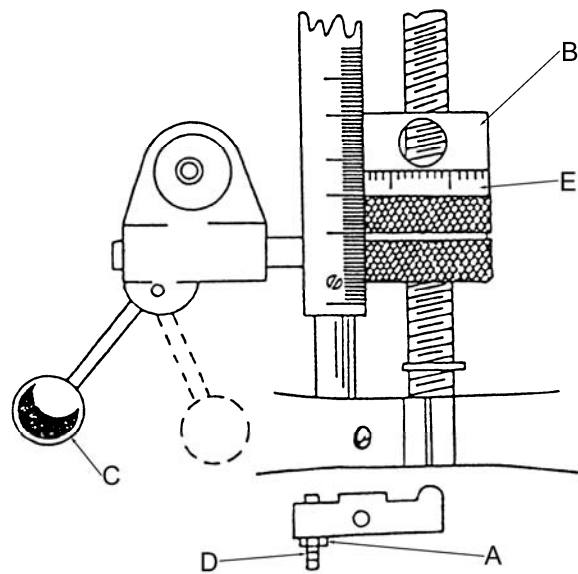

Figure 14
1. Loosen lock nut (A, Fig. 14).
2. Engage trip handle (C, Fig. 14) by pulling away from head assembly.
3. Adjust micro nuts (E, Fig. 14) against quill stop (B, Fig. 14).
4. Slowly turn adjusting screw (D, Fig. 14) until lever (C, Fig. 14) trips.
5. Tighten lock nut (A, Fig. 14)